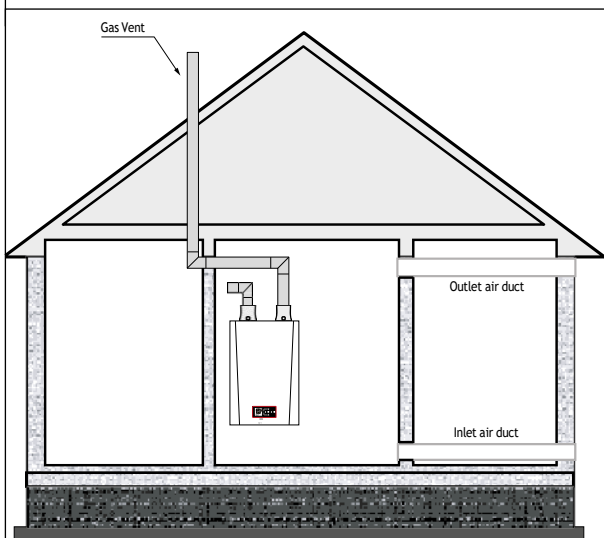

Fig. 4 - All Combustion Air from Outdoors Through Horizontal Ducts
- Where communicating with the outdoors is through horizontal ducts, each opening shall have a minimum free area of not less than 1 sq.in./2000 Btu/hr of total input rating of all equipment in the enclosure. See Fig. 4 below.